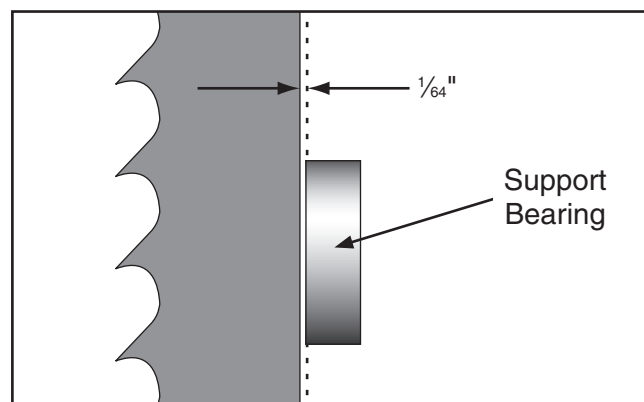

Figure 28. Support bearing properly positioned behind the blade.
9. Position the support bearing so that it is $\frac{1}{64}$ " (approximately the thickness of four pieces of paper) behind the blade, as illustrated in **Figure 28**.